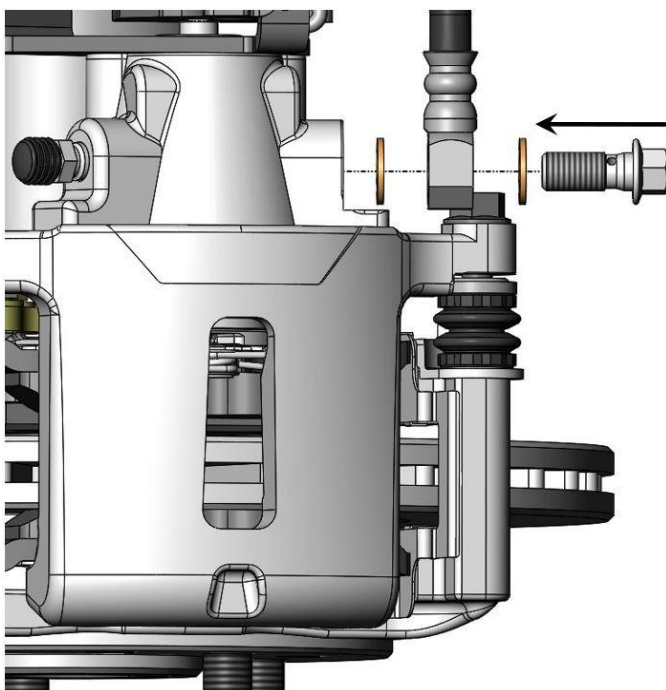
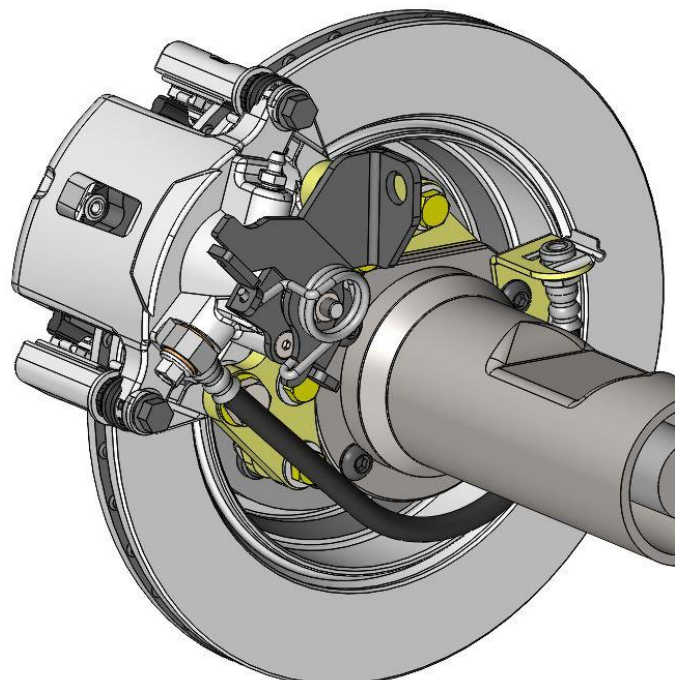

Figure 10a – Brake Hose Attachment to Caliper
Figure 10b – Brake Hose Attached at the Rear Axle Housing (DB1718BR LH Side Shown)
13. Install the flexible brake hose. Attach the brake hose to the caliper using the provided banjo bolt and copper crush washers as shown in Figure 10a below. Next route the hose under the axle tube and attach it to the previously installed Brake Hose Mounting Bracket with the provided clip. Attach the hardline to the brake hose. **NOTE: Depending on the location and fitting size on the OEM hardline, it may be necessary to shorten and re-flare along with slightly bending the hardline to line up properly.** Proper installation of the flexible brake hose can be seen in Figure 10b below.